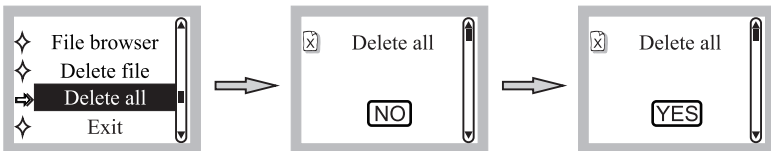

Fig. 27
- (3) Delete All: Press **▶||** to enter the “Delete all” screen. Press **◀◀** or **▶▶** to select “NO” or “YES”. Press **▶||** to confirm, Fig. 27.
- (4) Note: This function will delete all files in the flash drive, so careful action is highly recommended.